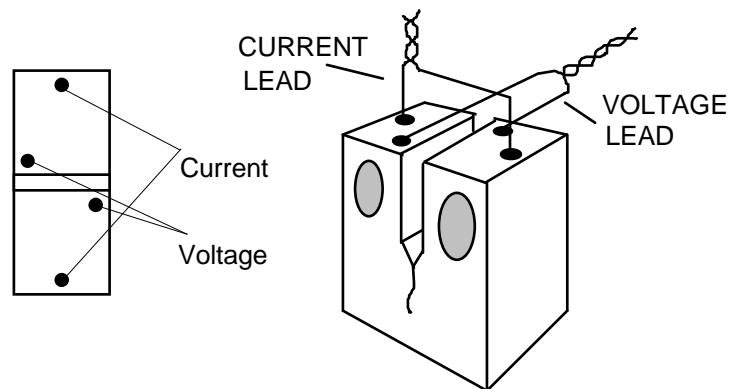

Fig 14. General ACPD connection locations
For a typical compact tension specimen (CT) the connections should be made as shown in Fig. 14. below.